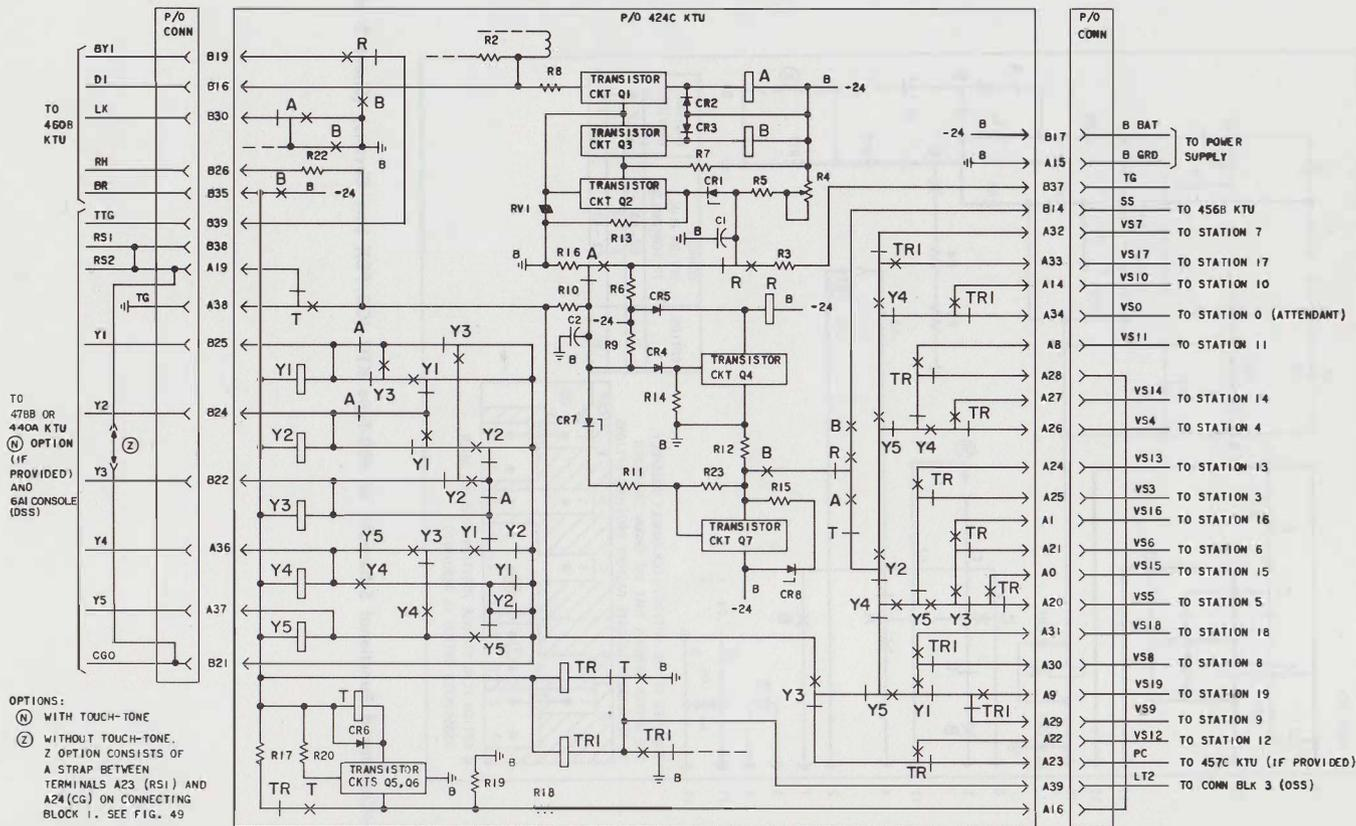

Fig. 13—Condensed Functional Schematic of 424C KTU (Dial Intercom 19-Code Selector Circuit)
2.19 The 424A or B KTU is an 8-inch dial selective intercom unit. Additional information may be found in CD- and SD-69567-01. The 424C (Fig. 13) is the preferred KTU for replacements